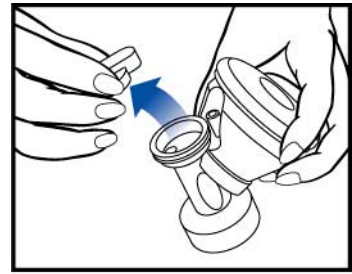

Figure 1
2. Remove Filter Cap by pulling straight up from Connector (See **Figure 1**) - leave Tubing connected to Filter Cap. **NOTE:** If milk contacts Filter Cap, remove tubing from Filter Cap and rinse Filter Cap with hot water.